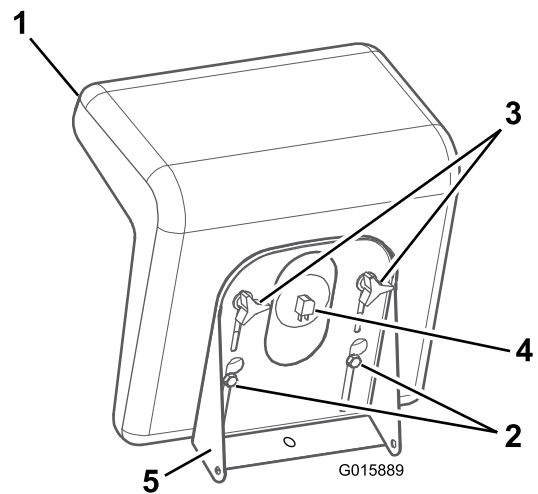

Figure 4
2. Thread the knobs and flat washers through the slots and into the rear center holes in the seat (Figure 4).
4. Connect the seat switch to the wire harness connector (Figure 4).